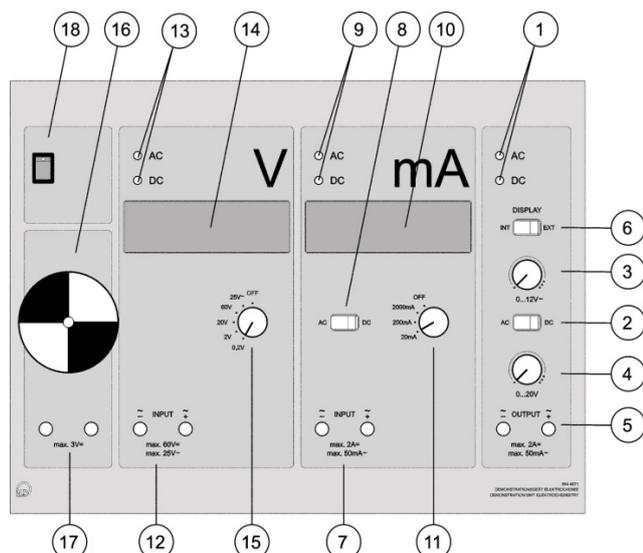

Fig. 2: Sketch of the demonstration unit.
Set up the experiment as shown in Figure 1. Fasten the double U tube using the two clip plugs in front. Fasten the two platinum sheet electrodes to one shoulder, respectively. Fasten the electrodes to the outlet sockets (5) of the demonstration unit using the connecting lead (see Figure 2 and 3).